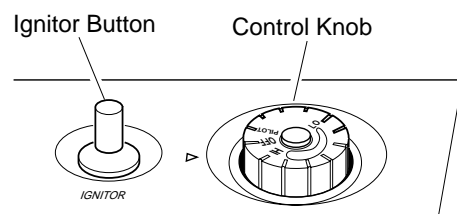

Figure 16 - Control Knob In The OFF Position
4. Wait five (5) minutes to clear out any gas. Then smell for gas, including near the floor. If you smell gas, STOP! Follow "B" in the safety information at the top of column 3, page 10. If you don't smell gas, go to the next step.
5. Turn control knob counterclockwise to the PILOT position. Press in control knob for five (5) seconds (see Figure 16).
**Note:** If pilot goes out, repeat steps 3 through 7. This heater has a safety interlock system. Wait one (1) minute before lighting pilot again.